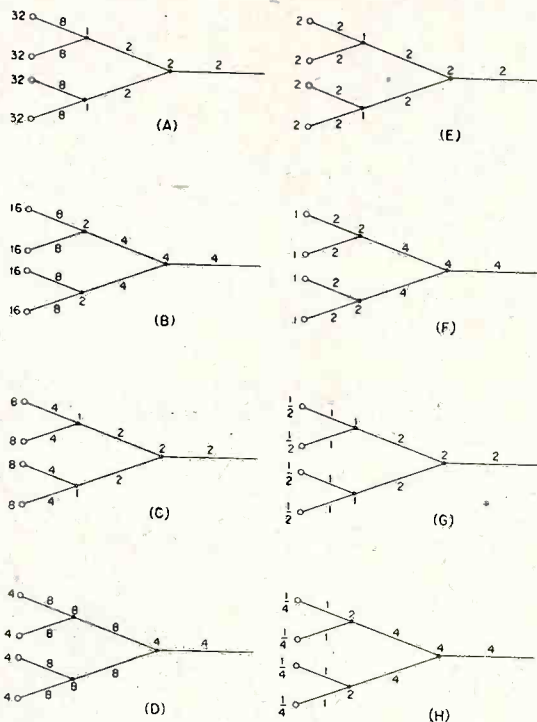

Fig. 3. Line interconnections for various 4-element arrays.
For the sake of completeness similar cases are shown for 4- and 8-element arrays in Figs. 3 and 4, respectively, for the antenna systems listed in Table I. Let us consider, for example, the 8-element array shown in (H) of Fig. 4. Here the problem is to match from a low-resistance antenna system consisting of